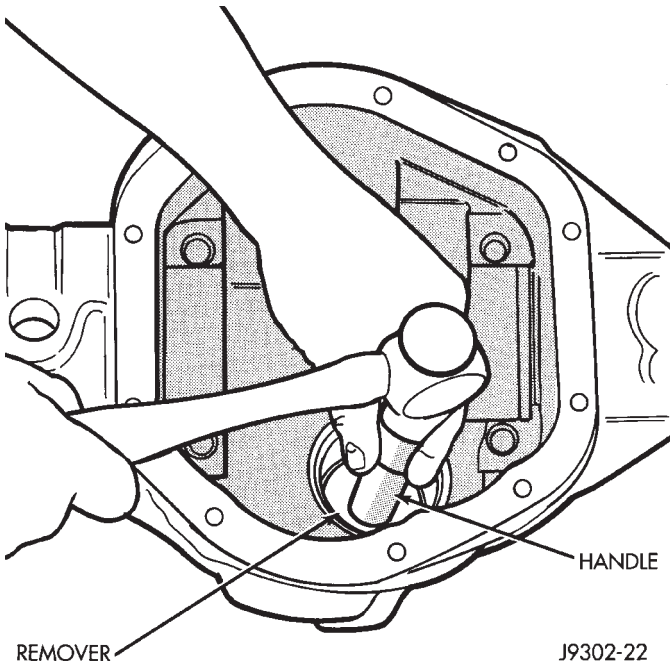

Fig. 39 Front Bearing Cup Removal
- (7) Remove the front pinion bearing cup, bearing, oil slinger, if equipped, and pinion seal with Remover C-4345 and Handle C-4171 (Fig. 39).